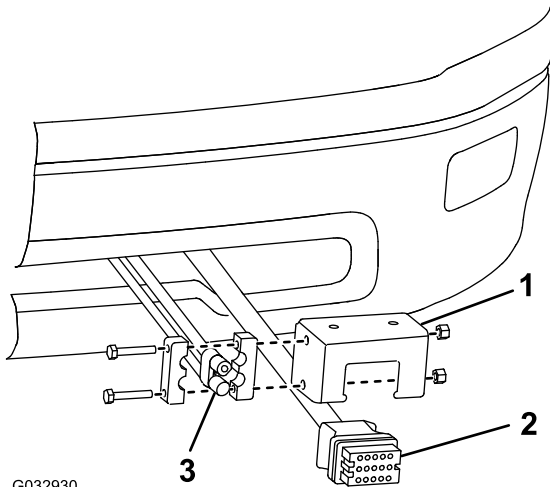

Figure 20
- 27. Mount the truck-side, wire harness plow connector to the lower part of the bumper using the control harness mounting bracket (Figure 20).
- 28. Mount the black and red power/ground connector to the control harness mounting bracket (Figure 20).